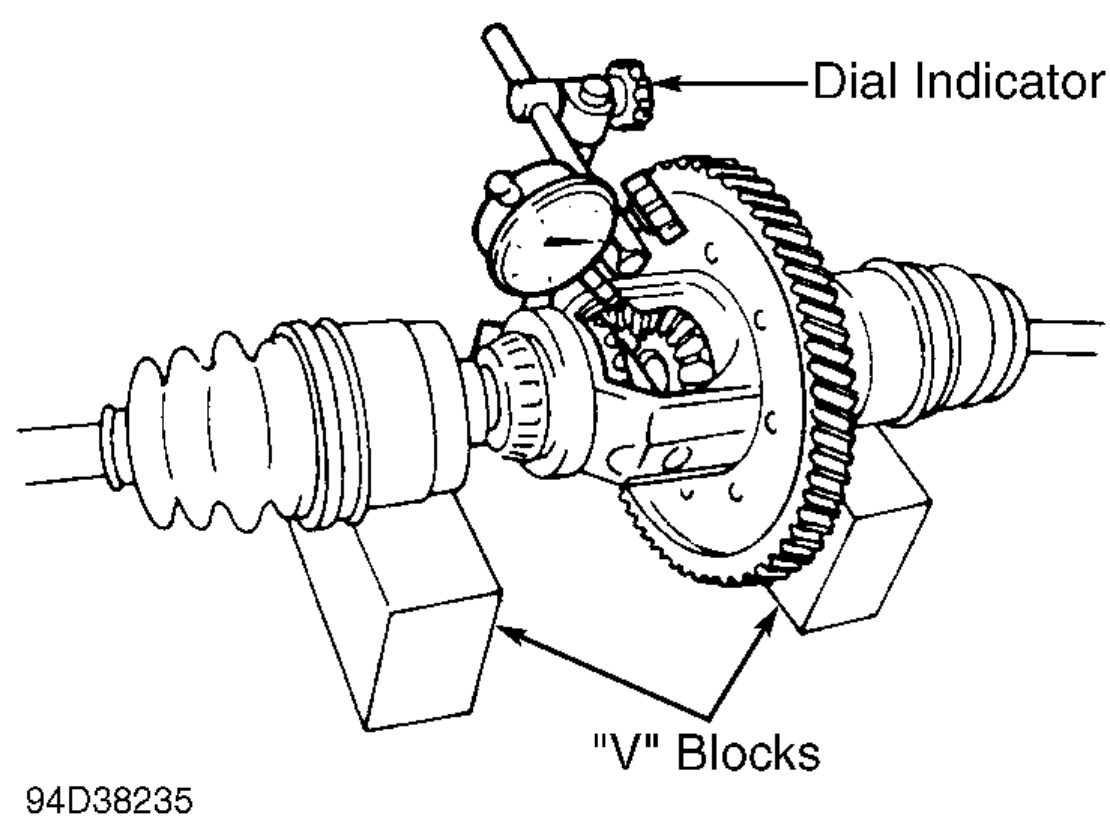

Fig. 13: Measuring Pinion Gear Backlash
- 1. Reverse removal procedure to reassemble. Measure side gear and pinion gear backlash by inserting drive shafts into differential side gears and supporting shafts in "V" blocks. Position dial indicator with plunger resting on teeth of pinion gear. See Fig. 13 . Measure backlash. Repeat procedure with plunger on other pinion gear.